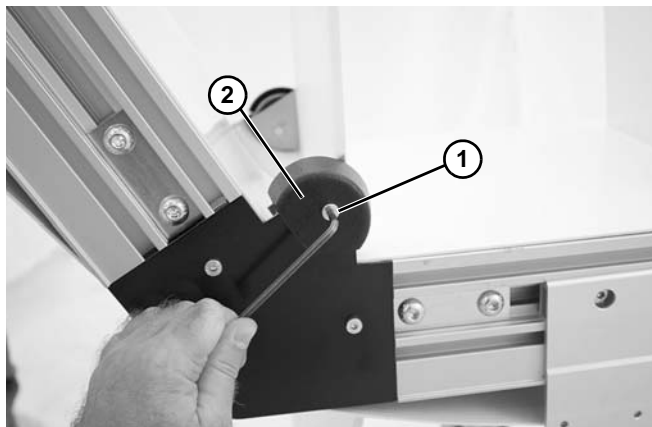

Figure 134
1. Remove screw (Figure 134, item 1) and guard (Figure 134, item 2) on the worn bearing side of the knuckle.
4. Replace guard (Figure 134, item 2) and secure with screw (Figure 134, item 1).